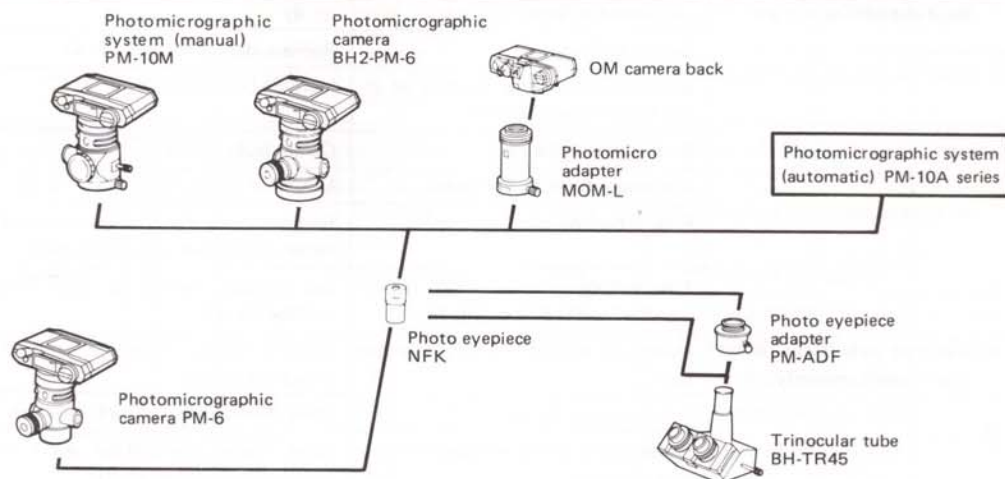

Fig. 19
- 1) Set up the photomicrographic equipment PM-10AK. (Fig. 19)
- 3) Pull out the light path selector lever ① to deflect the light to the photo tube.
- 4) Looking through the focusing telescope ②, focus on the specimen.